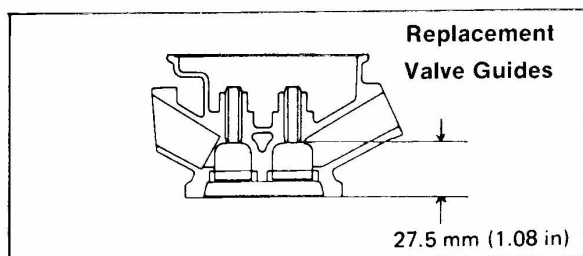

Figure 4-45
- C. Use the valve guide installer, part number 81-4880, to drive in the new oversize valve guides, part number 81-3830. Drive the guides in from the valve cover side of the head. When properly installed, there will be 27.5 mm (1.08 in.) clearance between the end of the valve guide and the gasket surface of the head. See Fig. 4-45.